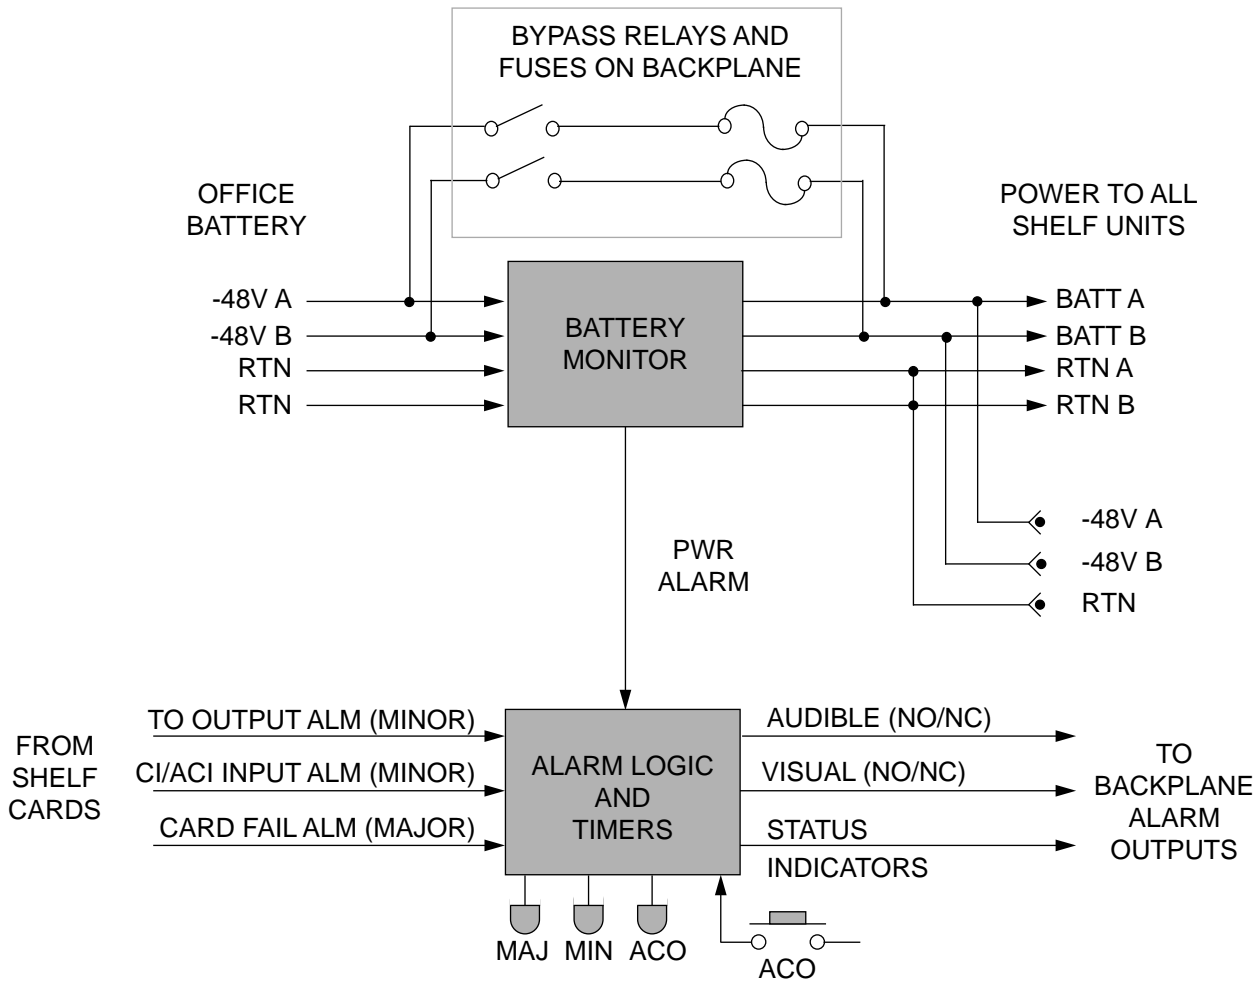

Figure 8. FA Card Block Diagram
4.06 The Fuse and Alarm (FA) card (Figure 8) filters and provides fuse protection for two office batteries (-48V dc) from the office power distribution panel. Front panel jacks allow testing of the A and B supplies at the input to the shelf. The -48V is passed to the clock input (CI or ACI), ST3, TOxA, SCIU, and Matrix Controller cards, each of which contains a small dc-to-dc converter to provide its own regulated dc voltages.
4.21 The Enhanced Stratum-2 clock card (ST2E) (Figure 8) is almost identical to the ST2 clock card. Like the ST2 card, the ST2E provides a stable reference to drive the Timing Output (TOxA) cards. ST2E cards are normally configured to function as a pair and are used in the master shelf only.